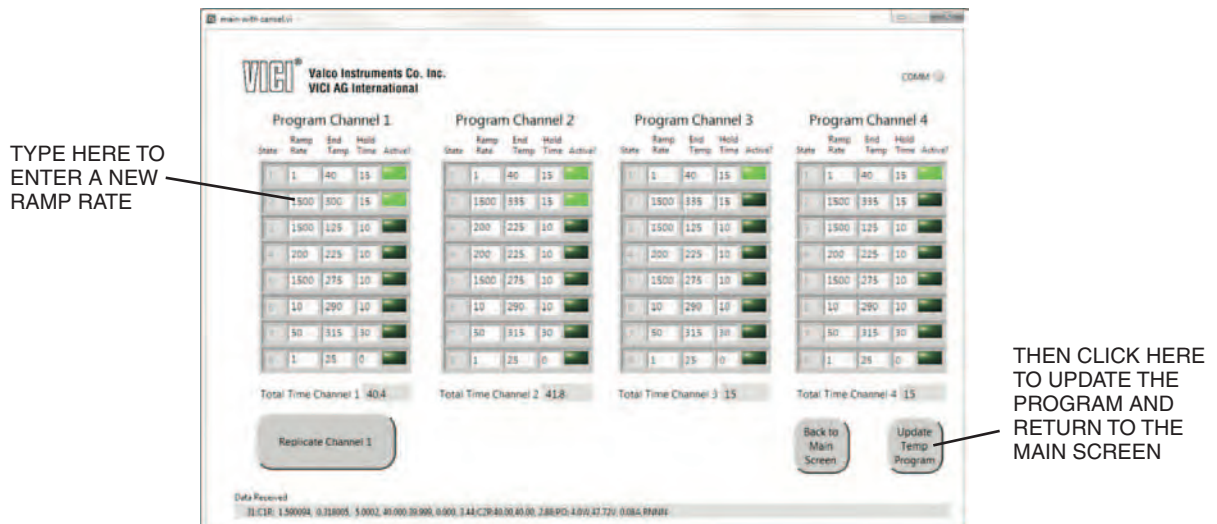

Figure 13: Entering a ramp rate and saving the change
1. Click the “Modify Programs” button on the Main screen to open the Program screen shown in **Figure 13**.